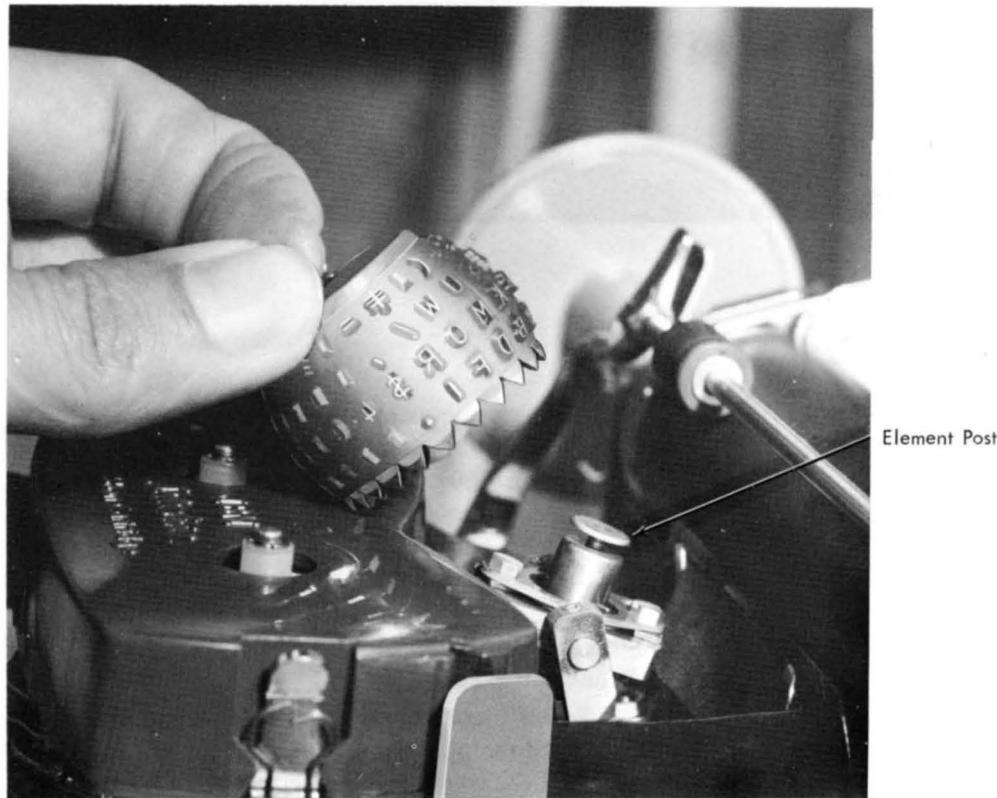

Figure 89. Removing and Replacing Typing Element
5. Lift the typing element up and off, of the element post (Figure 89).
2. Point the arrow toward the platen; ease the typing element down into position until firmly seated (Figure 89).